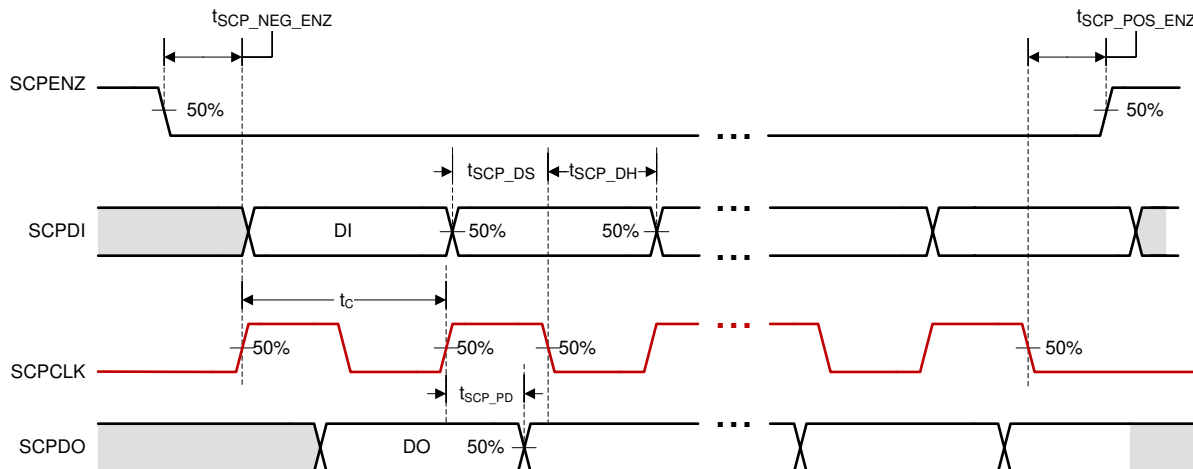

図 6-2. SCP Timing Requirements
- (5) Low-speed interface is LPSDR and adheres to the Electrical Characteristics and AC/DC Operating Conditions table in JEDEC Standard No. 209B, "Low-Power Double Data Rate (LPDDR)" JESD209B. Tester conditions for V_{IH} and V_{IL} .
- (6) PWRDNZ input pin resets the SCP and disables the LVDS receivers. PWRDNZ input pin overrides SCPENZ input pin and tristates the SCPDO output pin.
- (7) The SCP clock is a gated clock. Duty cycle must be 50% \pm 10%. SCP parameter is related to the frequency of DCLK.
- (8) See 図 6-2.